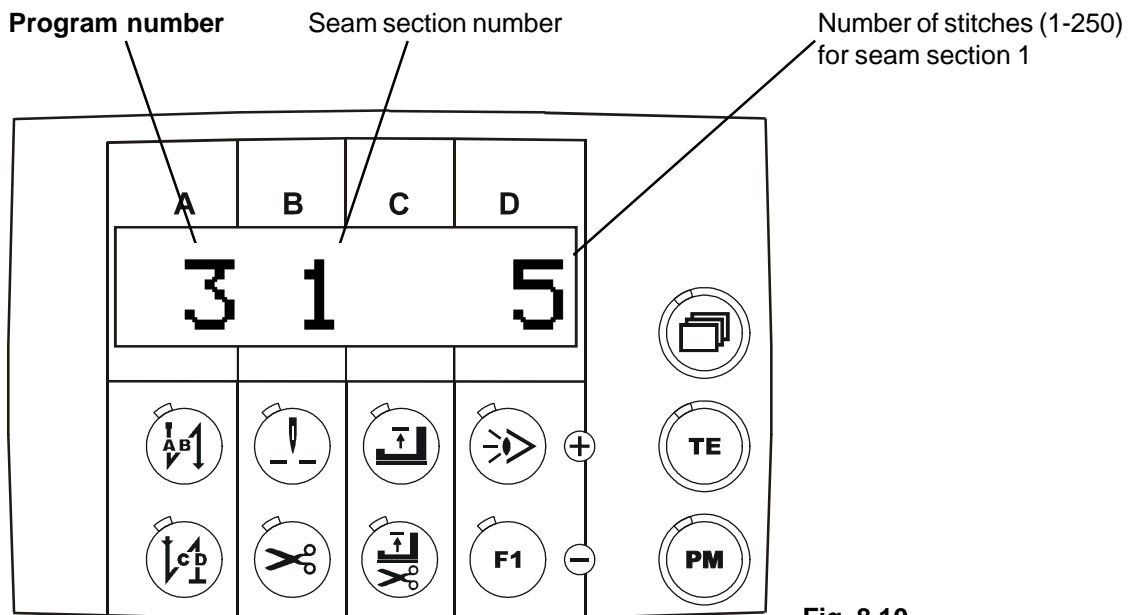

Fig. 8.10
7.2 Press the **paging key** until the display **Fig. 8.10** appears